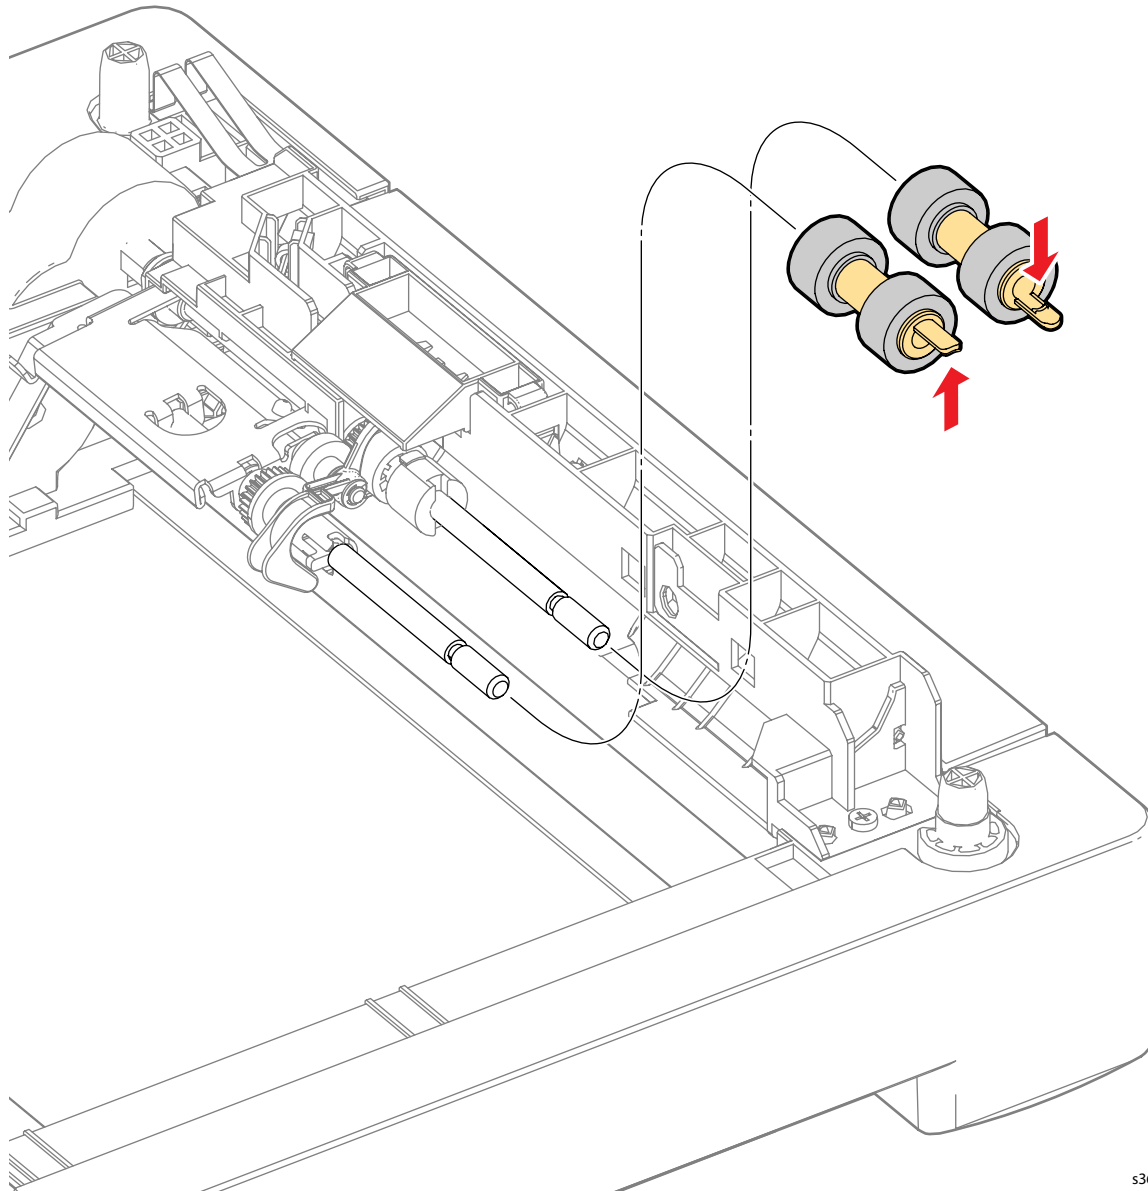

Figure 1
3. Release the clip that secures each roller to the shaft. (Figure 1)